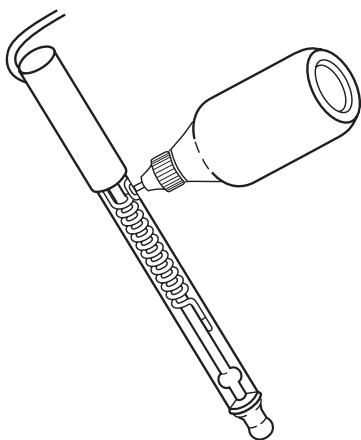

Figure 2
- B. Fill the electrode with the sodium electrode filling solution, Cat. No. 900010. See **Figure 2**. For low-level measurements (less than 10^{-5} M), Cat. No. 900012 is recommended. To function properly, the level of the filling solution must cover the coil and be at least one inch above the sample level on immersion. The electrode fill hole should be open whenever the electrode is in use.